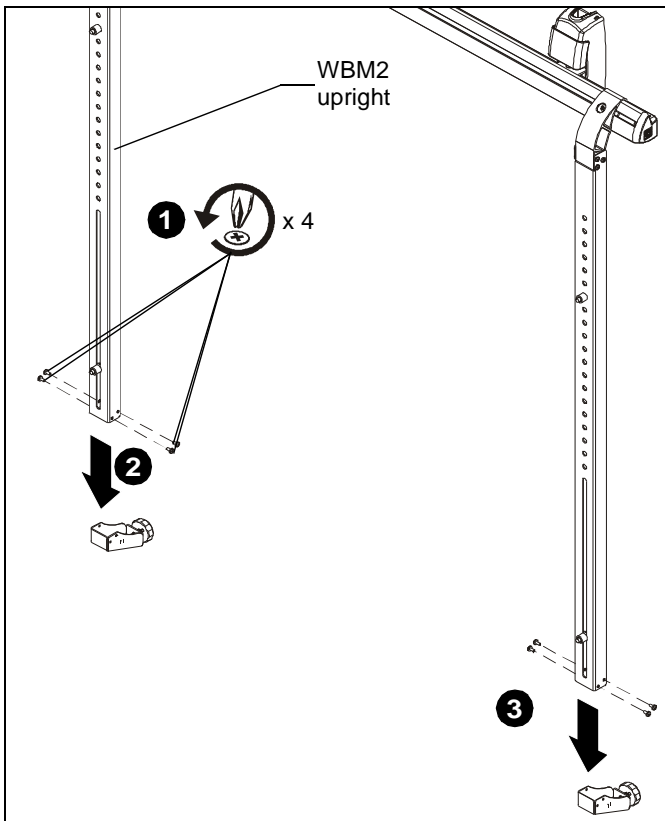

Figure 1
1. Remove and **SAVE** four Phillips screws from bottom of WBM2 upright. (See Figure 1)
2. Remove lower foot of WBM2. (See Figure 1)